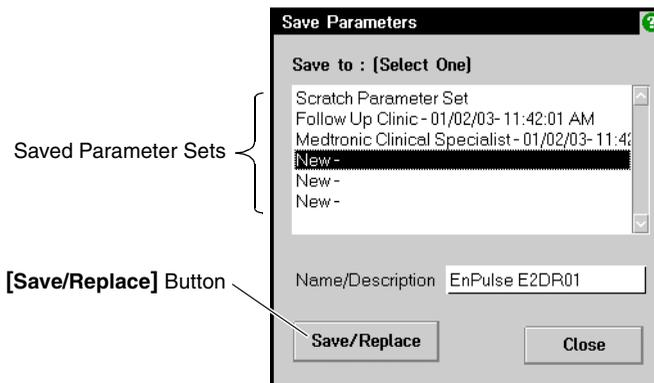

Figure 7-8. Save Parameters window
1. Select the **[Save...]** button to open the Save Parameters window (Figure 7-8).